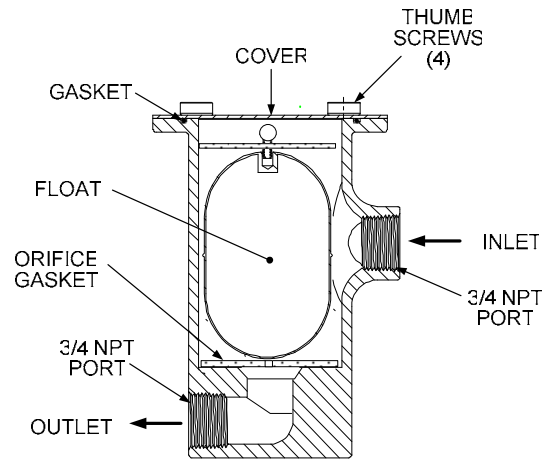
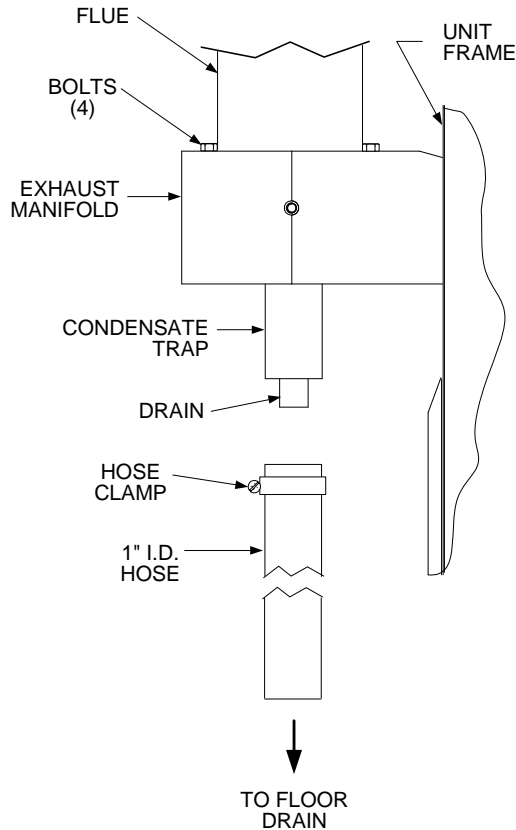

Figure 7-4
Figure 7-5
2. Remove the connections on the inlet and outlet sides of the condensate trap shown in Figure 7-4.
3. Loosen the four (4) thumbscrews securing the cover on the condensate trap. Remove the cover.
The exhaust manifold condensate trap also contains a float and orifice gasket identical to those shown in Figure 7-4. To inspect and clean the trap, refer to Figure 7-5 and proceed as follows:
1. Loosen the clamp securing the hose to the condensate drain (Figure 7-5). Disconnect the hose.